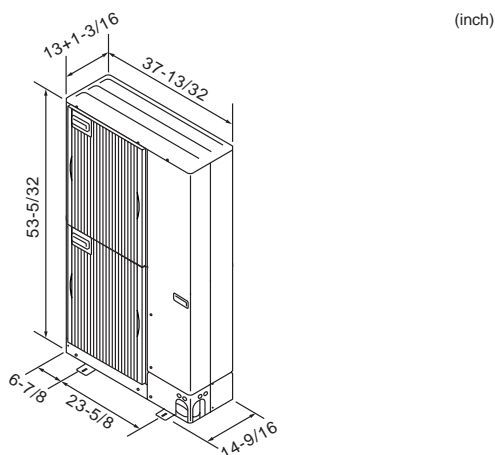

Fig. 2-1
2.3. Outline dimensions (Outdoor unit) (Fig. 2-1)